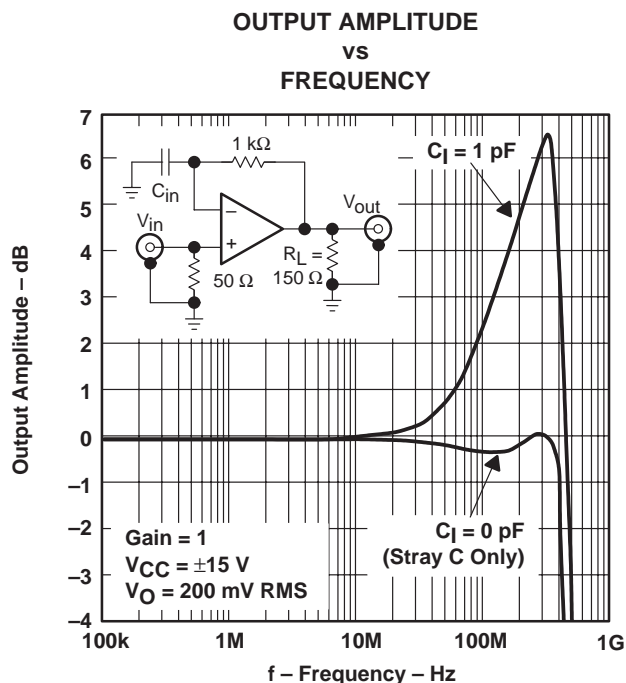
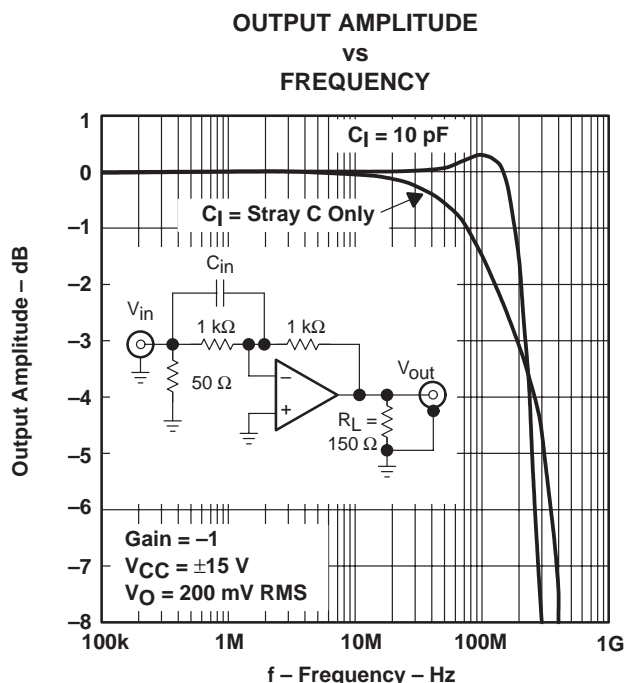

Figure 53
Figure 54
- Input stray capacitance – To minimize potential problems with amplifier oscillation, the capacitance at the inverting input of the amplifiers must be kept to a minimum. To do this, PCB trace runs to the inverting input must be as short as possible, the ground plane must be removed under any etch runs connected to the inverting input, and external components should be placed as close as possible to the inverting input. This is especially true in the non-inverting configuration. An example of this can be seen in Figure 53, which shows what happens when a 1-pF capacitor is added to the inverting input terminal. The bandwidth increases at the expense of peaking. This is because some of the error current is flowing through the stray capacitor instead of the inverting node of the amplifier. Although, while the device is in the inverting mode, stray capacitance at the inverting input has a minimal effect. This is because the inverting node is at a *virtual ground* and the voltage does not fluctuate nearly as much as in the noninverting configuration. This can be seen in Figure 54, where a 10-pF capacitor adds only 0.35 dB of peaking. In general, as the gain of the system increases, the output peaking due to this capacitor decreases. While this can initially look like a faster and better system, overshoot and ringing are more likely to occur under fast transient conditions. So proper analysis of adding a capacitor to the inverting input node should be performed for stable operation.